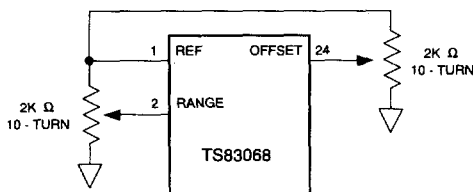

Figure 3: Connection of RANGE, REF and OFFSET.
**Note 5 :** The reference gain control voltage can be adjusted between 0.5 V and 1.2 V (see Figure 3).
For bipolar input, the offset pin is not connected. For unipolar positive, the offset pin is connected to AGND. For unipolar negative the offset pin is connected to the REF pin. A  $2$  k $\Omega$  potentiometer can be connected between AGND, OFFSET and REF to vary the DC offset of the input amplifier as shown in Figure 3.
The range pin allows optional adjustment of the negative reference voltage (thus the gain) of the flash converter and is normally left unconnected. For gain adjustment a  $2$  k $\Omega$  potentiometer can be connected between REF, RANGE and AGND as shown in Figure 3. The nominal input resistance is  $300$   $\Omega$ . The RB pin allows monitoring of the full scale reference voltage to the flash converter through a  $470$   $\Omega$  series resistor.